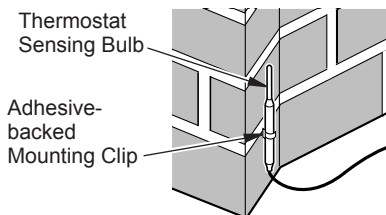

Figure 33 - Locating Thermostat Sensing Bulb on Masonry Fireplace
3. The thermostat sensing bulb may be located to the lower right front side of fireplace. Determine location of sensing bulb, but do not mount sensing bulb until step 4. If you have a masonry fireplace, see Figure 33 for location.